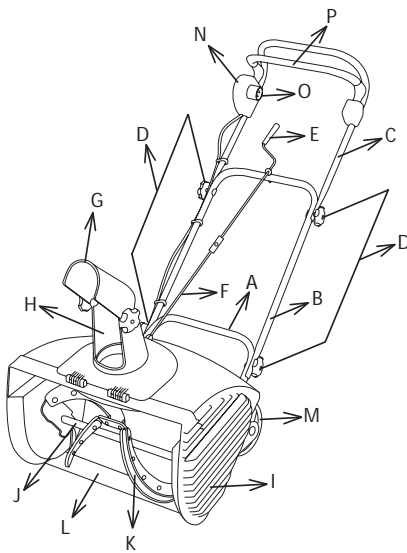

Figure 1
- a. **Know your snow thrower** - Familiarize yourself with the main parts of your snow thrower (Fig. 1).